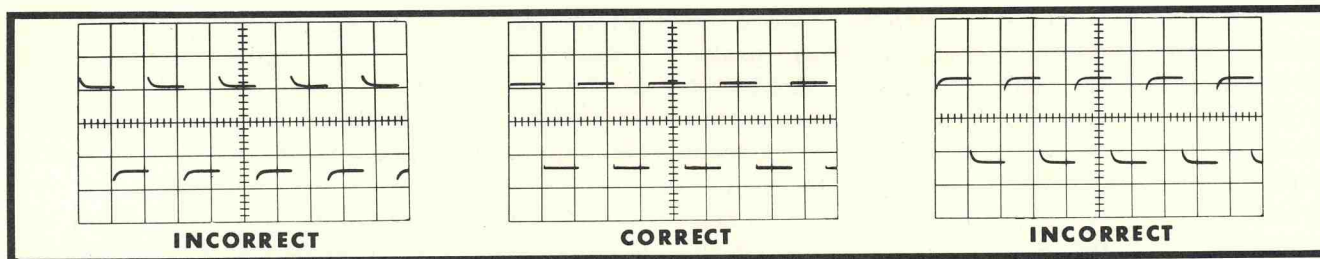

Fig. 2-2. Waveforms for adjustment of probe compensation.
4. Adjust the probe capacitor for a flat top on the square wave. See Figure 2-2 for a display of the waveform. The Instruction Manual for the instrument with which the probe was supplied shows the method of adjusting the particular probe.